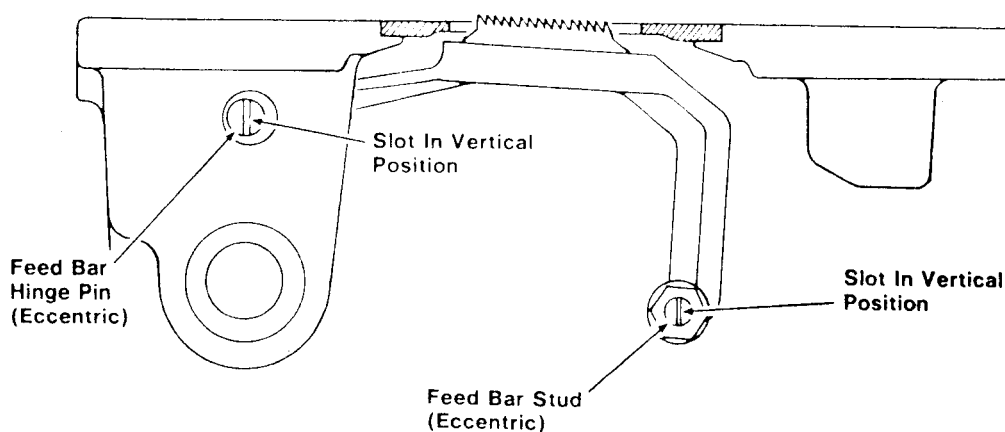

FIG. 1
**HEIGHT SETTING:** Loosen feed bar hinge pin locking screws (Fig. B), and turn eccentric feed bar hinge pin. Visually adjust to bring feed dog at maximum height above throat plate and tighten both hinge pin locking screws. This will locate the slot shown in a vertical position (Fig. 1).
Loosen feed bar stud locking nut (Fig. B), and turn eccentric stud several times. You will note that the feed bar will rock back and forth. Visually position feed bar rock motion towards the operator with slot in vertical position (Fig. 1), and tighten locking nut.